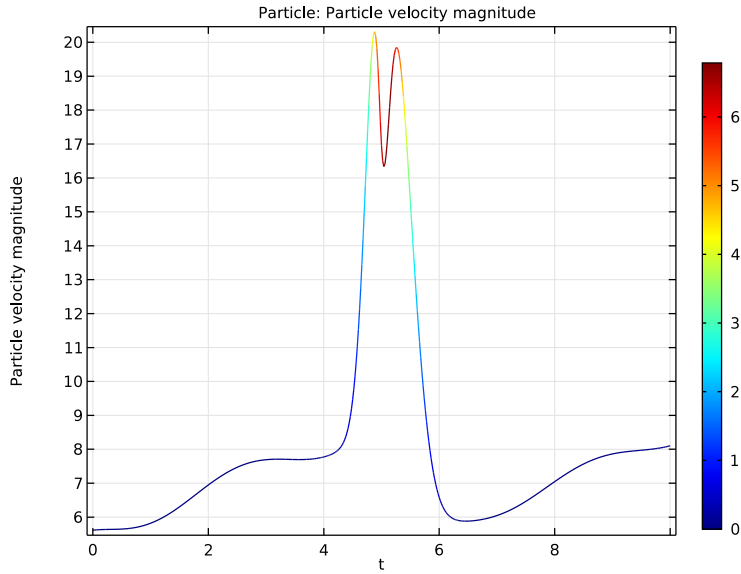
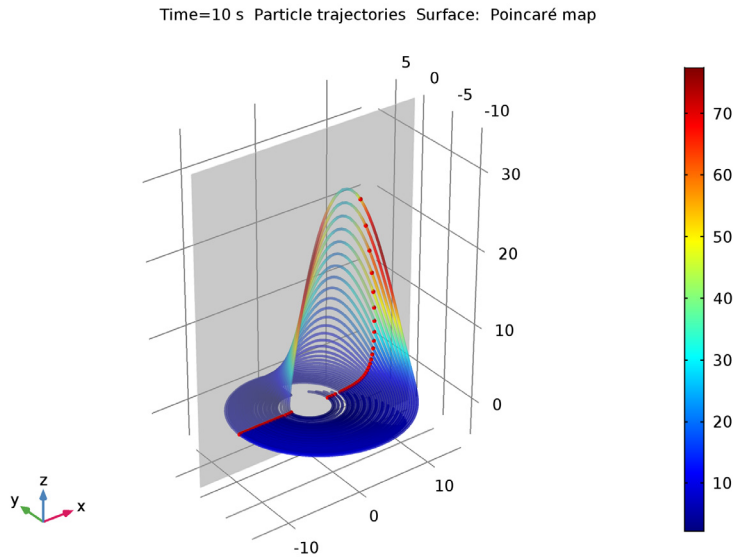

Figure 2: Plot of the average particle velocity versus time.
Figure 3: Particle trajectories with a Poincaré map superimposed (red dots) and Poincaré section shown (gray cut plane).
- 8 Click **Go to Default View**. The resulting plot should look like Figure 3.
The average particle velocity is plotted in Figure 2. There is a double-peak in maximum velocity, corresponding to the upswing and downswing regions. A Poincaré map of the particle trajectories at 10 seconds is shown in Figure 3. In the region $x < 0$ the particles clearly only ever exist at $z = 0$ in the xz -plane. In the region $x > 0$ the particles can acquire a significant elevation in the xz -plane.